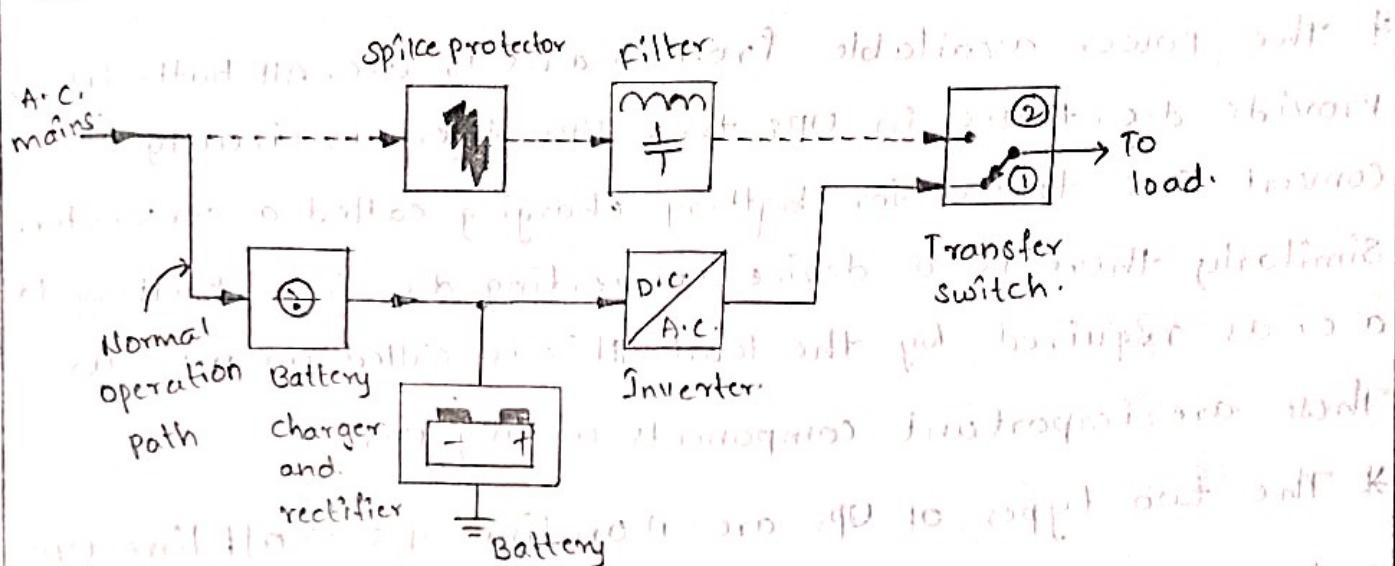

Fig. Q.27.1 Block Schematic of ON line UPS.
* The fig. Q.27.1 shows the block schematic of ON line UPS.